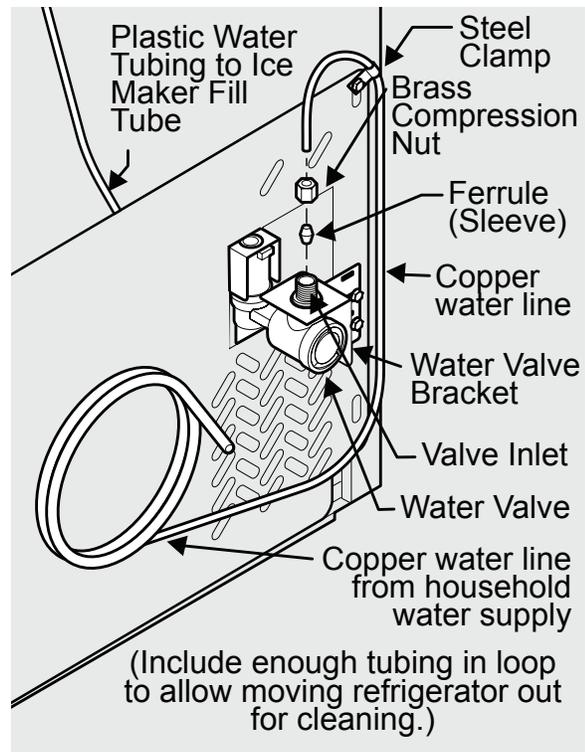

Figure 1
4. If you use copper tubing - Slide brass compression nut, then ferrule (sleeve) onto water supply line. Push water supply line into water valve inlet as far as it will go ($\frac{1}{4}$ inch/6.4 mm). Slide ferrule (sleeve) into valve inlet and finger tighten compression nut onto valve. Tighten another half turn with a wrench; **DO NOT** overtighten. See Figure 1.